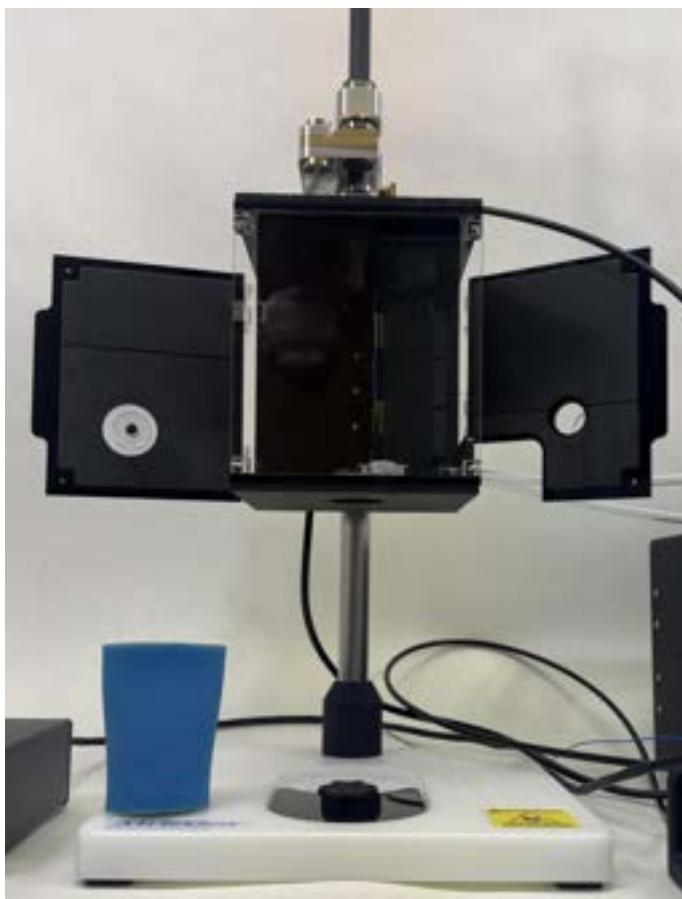

Figure 13: Proper enclosure disassembly and state for system shutdown. The humidity sock is removed and set to dry, and the enclosure doors are open
- STEP 8.** When finished preparing grids, switch the power switch on the front panel of the chiller unit to “Off”. Remove the humidity sock from the enclosure and leave at least one of the enclosure doors open to let the enclosure dry out when not in use (see **Figure 13** below). Once dry, place humidity sock inside enclosure and close enclosure to ensure all components stay together and dust and debris do not accumulate inside the enclosure or the sock.